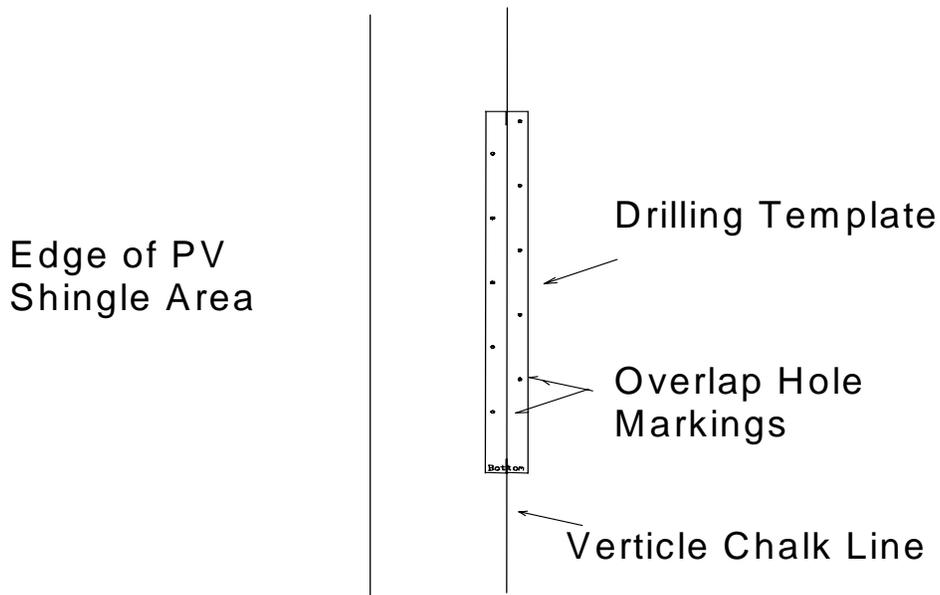

Figure 6
- 2.3 To mark additional PV shingle feed through holes move the template up on the deck such that the template is still centered on the vertical line with a minimum of two holes of the template overlapping and centered on the previous marked position (see figure 6).